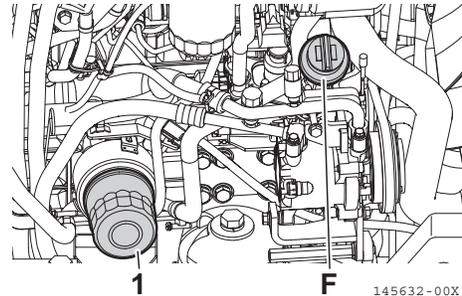

Fig. 8-60
5. Turn the oil filter (cartridge) (**Fig. 8-60, 1**) counterclockwise with a filter wrench to remove.
After removing the oil filter (**Fig. 8-60, 1**), wait for 10 to 15 minutes.
6. Clean the filter mount and apply the engine oil (or apply grease lightly) to the seal surface of a new oil filter (**Fig. 8-60, 1**) and install the filter.
8. After replacing the oil filter (**Fig. 8-60, 1**), add engine oil to the upper limit mark on the oil dipstick through the oil supply port (**Fig. 8-60, F**).